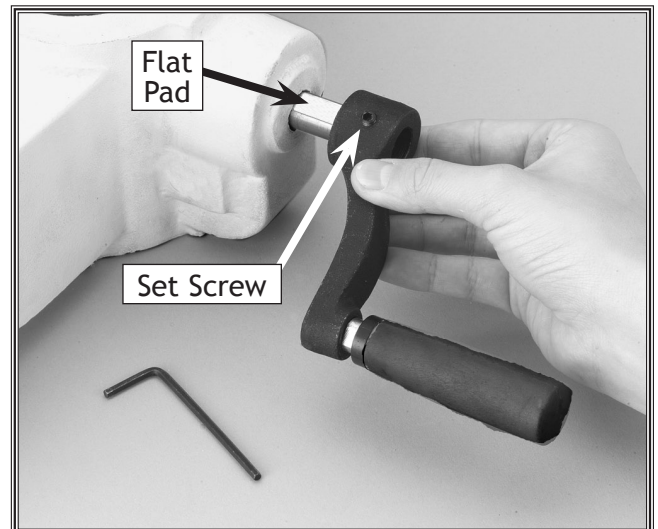

Figure 10. Align set screw with flat pad on pinion.
4. Tighten the 3mm set screw to lock the handle in place (see **Figure 10**).